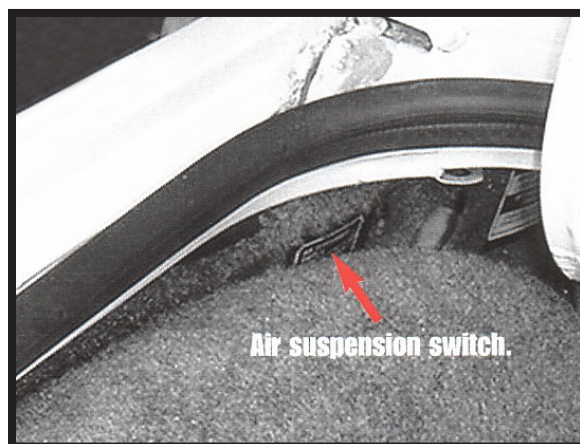

FIGURE 10-1
1. TURN THE AIR SUSPENSION SWITCH TO THE OFF POSITION. (SWITCH IS LOCATED ON THE DRIVER'S SIDE OF THE TRUNK.) (FIGURE 10-1)